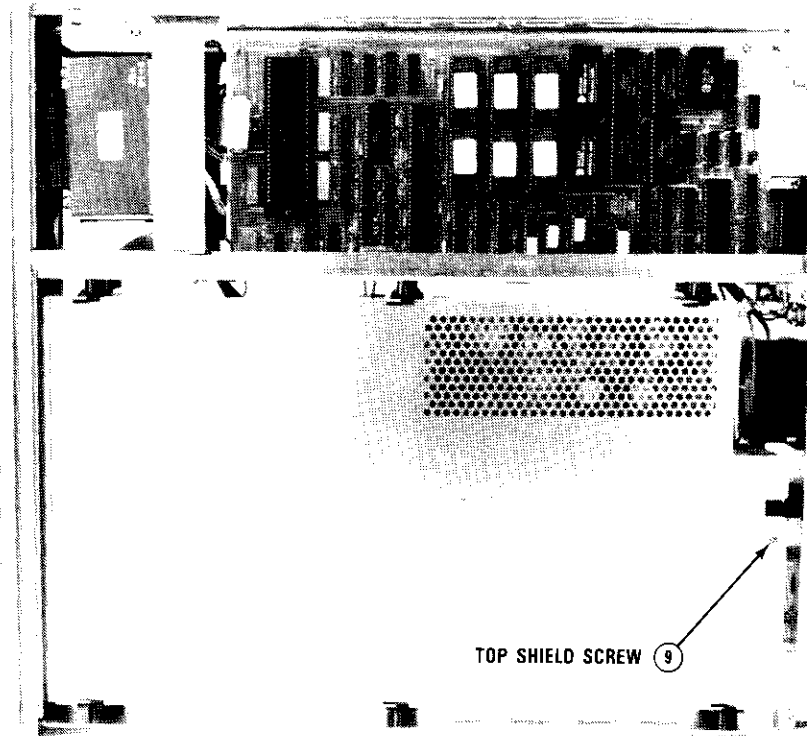

Figure C-7. HP 3458 Inside Top View
1. Refer to Figure C-7. Turn the instrument over so its bottom sits on your workbench.
4. Refer to Figure C-7. Replace the top shield. Line up the slots on the shield with the shield retainers. Then push the shield toward the front of the instrument until the shield screw hole lines up with the hole in the chassis. Use the #TX10 Torx driver to reinstall the shield screw.